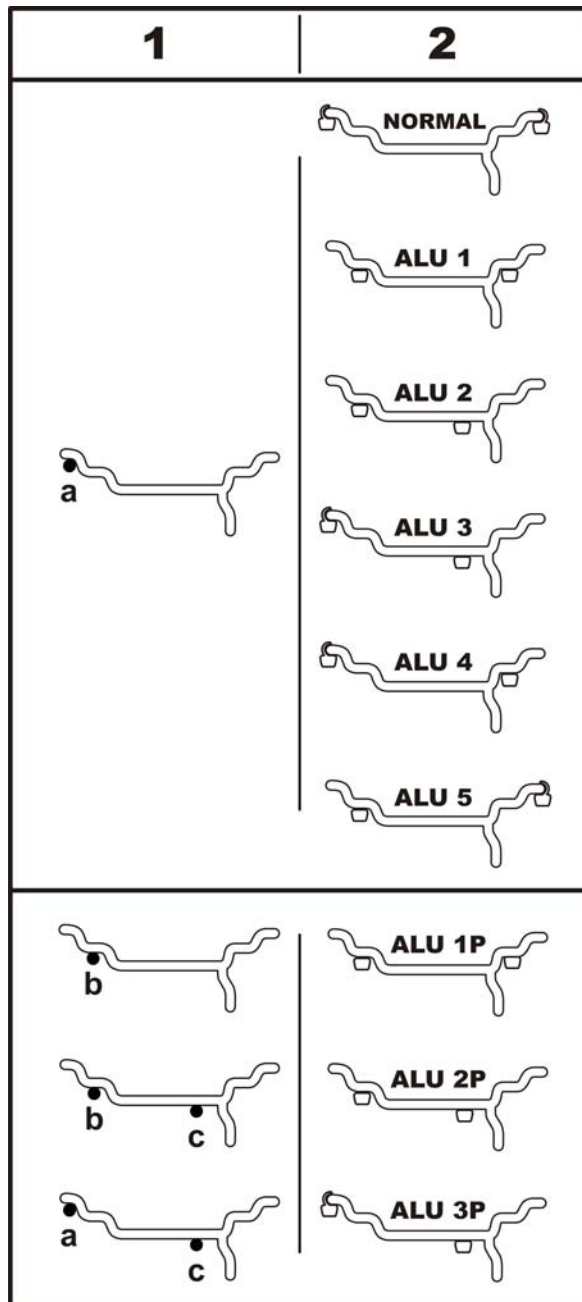

Figure 22
Fig. 22 shows the corrected reading positions of the SAPE arm (1), depending on the required weight positions (2); adhesive weights and clip-on weights.